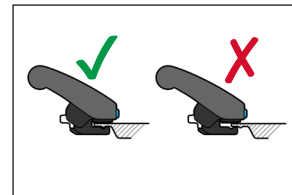

Fig. 7
2. Firmly press the handle onto the InfinityEdge of the device until the handle clamp is completely seated (Fig. 7).